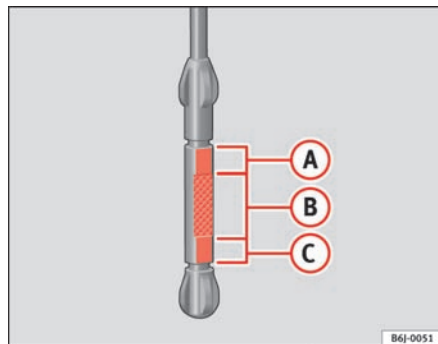

Fig. 112 Engine oil dipstick
- Then pull it out once more and check the oil level ⇒ fig. 112. Top up with engine oil if necessary.